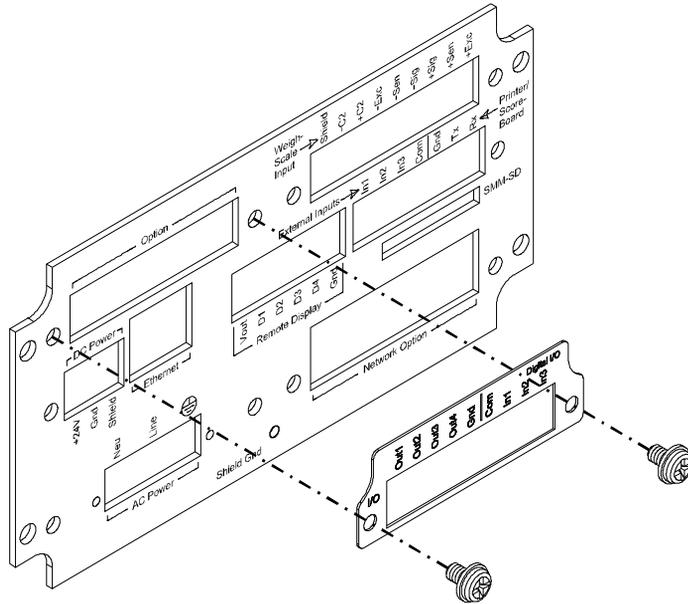

FIG. 28 INSTALLING THE DIGITAL I/O LABEL
- Step 5. Use the two (2) pan head screws (4-40 x .25") to fasten the rear panel to the Digital I/O card assembly. (See Figs. 28 & 29)